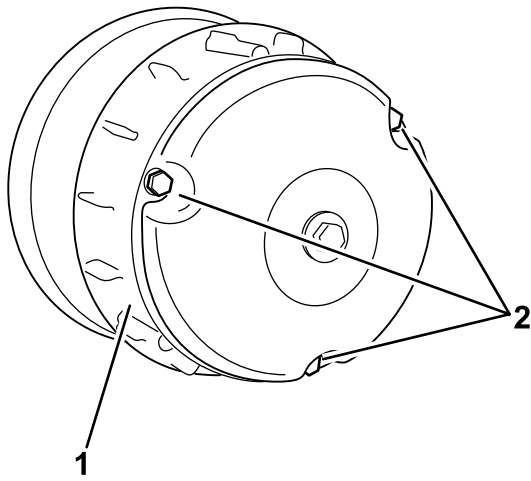

Figure 60
- Remove the 3 bolts securing the cover to the clutch, and remove the cover (Figure 60).
4. Install the clutch cover and secure it with the 3 bolts (Figure 60) that you removed in 2.